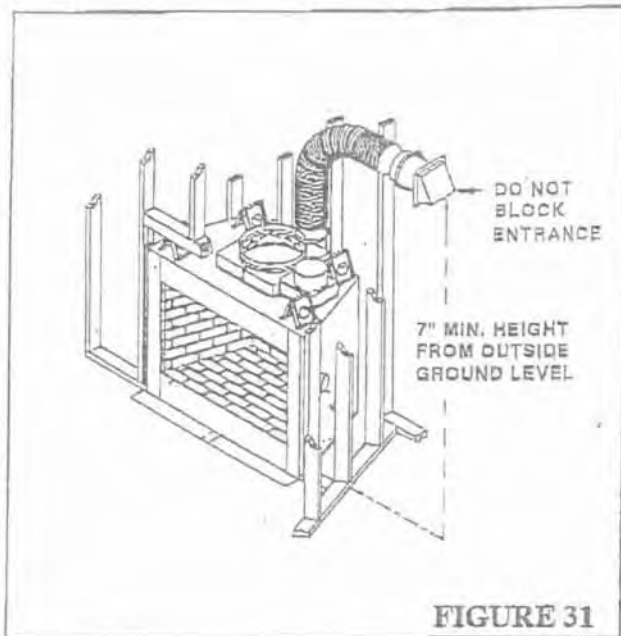

FIGURE 31
In colder climates, utilization of Marco's Cold Climate Kit will help prevent outside air from entering the room through the flue liner (Figure 31). Please follow the installation instructions provided with the kit.
C) The air inlet must be installed a minimum of 7' above the outside ground level (Figure 31).